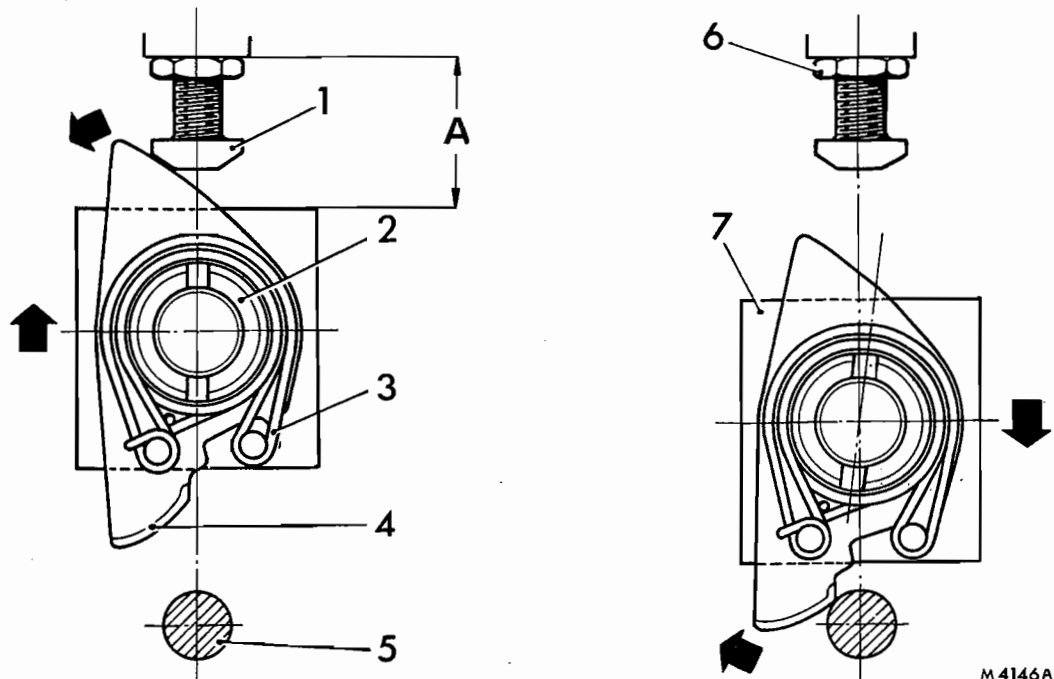

FIG. 7 THE AUTOMATIC ADJUSTERS
Wear on the brake linings will allow the thrust pad to move higher. When this occurs the automatic adjuster ring, Fig. 7, striking the adjuster screw will be rotated anti-clockwise. The adjuster ring is pinned to the spring in such a manner that this action tightens the spring against the adjuster nut. As the brake approaches the off position, the rear portion of the adjuster ring strikes the tail pin. The adjuster ring now rotates in the clockwise direction, taking with it the adjuster nut which is thereby screwed down. This reduces the effective length of the pull rod and takes up the extra movement caused by the wear of the brake linings.
By measuring between the brake band and the adjuster mechanism with the brake in the on position, it is possible to obtain the setting required for each brake, (A) Fig. 7.
2. Engage the gear concerned and try the appropriate gauge between the face of the adjuster table and the boss on the brake band, Figs. 7 and 9. The correct setting is that which just allows the gauge to enter.
8. Lock the adjuster screw (1) Fig. 7.